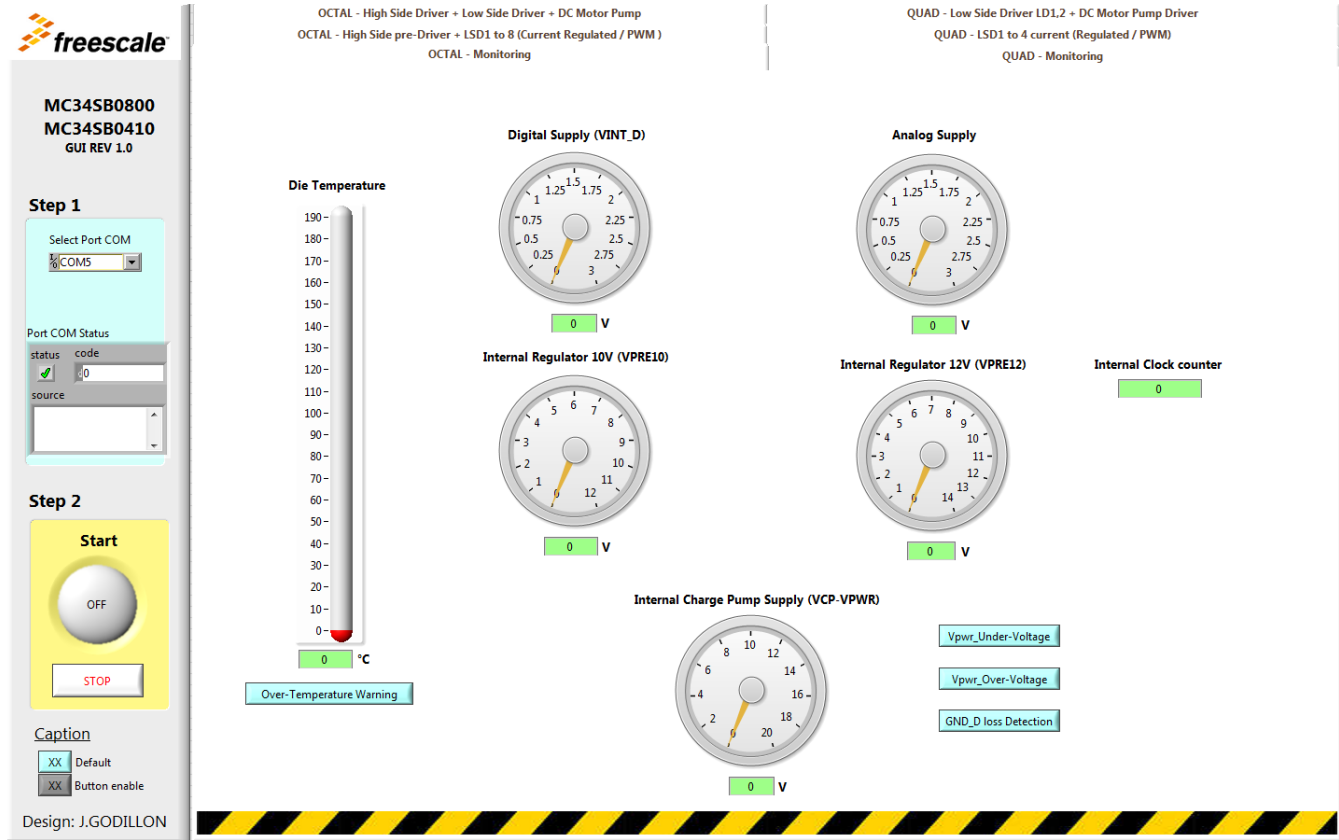

Figure 8. Octal Monitoring Screen
- 11. You should see the screen shown in Figure 8: